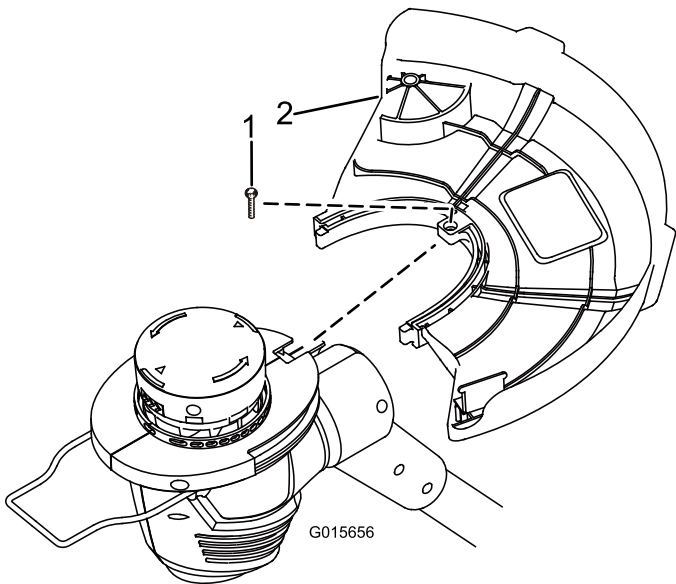

Figure 2
1. Slide the guard onto the trimmer base as shown in Figure 2.